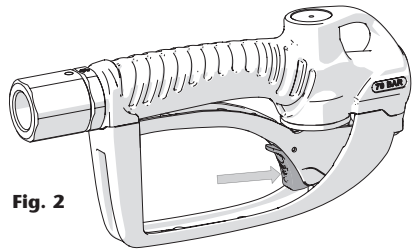

Fig. 2
2. Push the lock button (fig. 2).